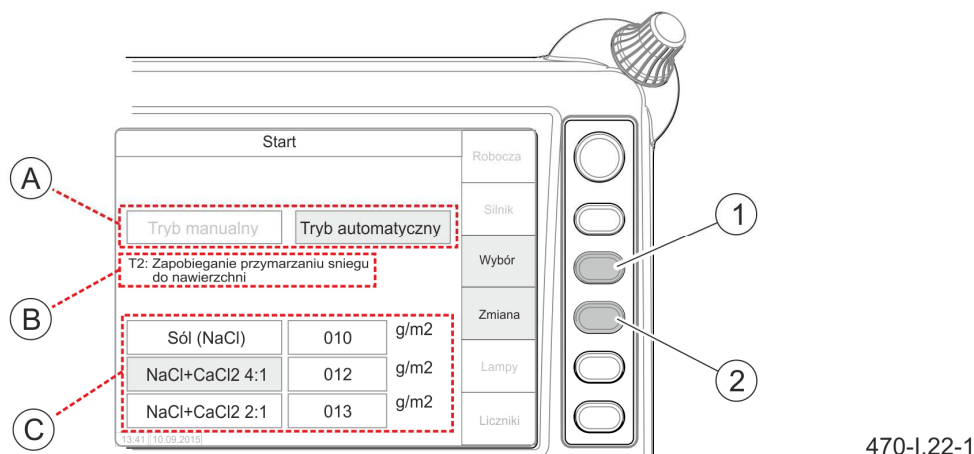

FIGURE 4.21 Selection of automatic mode (option)
- mark working mode type selection field (A) on „Start” home page of the control panel (FIGURE 4.21)by means of push-button (1),
- select "Automatic mode" by means of push-button (2) "Change" in field (A),